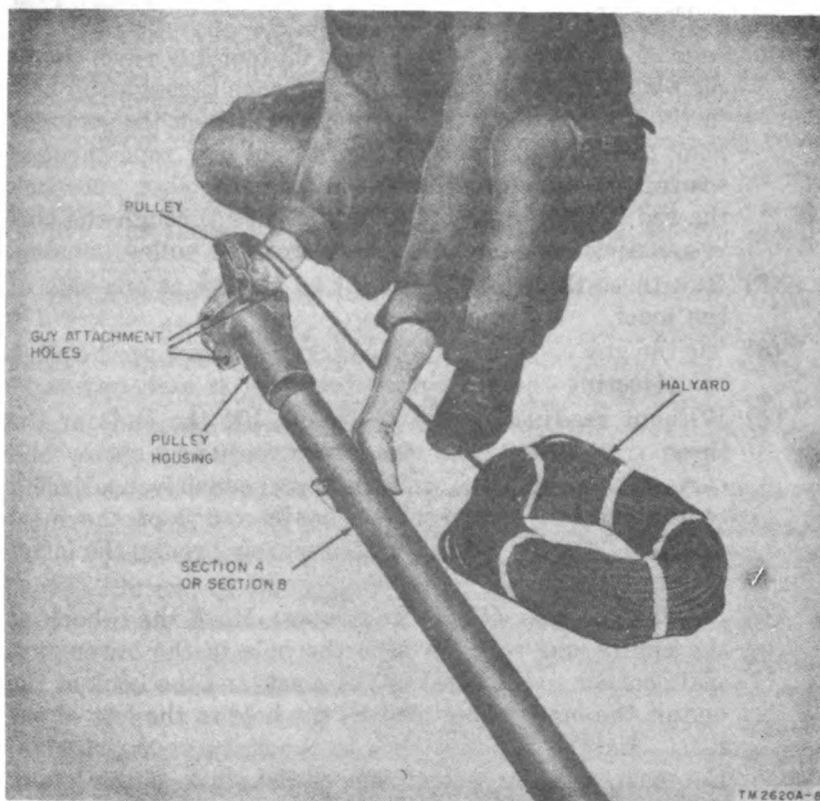

Figure 8. Installation of pulley housing and halyard.
11. Installing Pulley Housing (fig. 8)
a. Place the pulley housing, with halyard installed, on the ground so that the pulley is in a vertical position (fig. 8). Turn the housing 45° to the left, and slip the tubular section of the housing over the last section of the mast. One corner of the pulley housing guy plate should now rest on the ground.